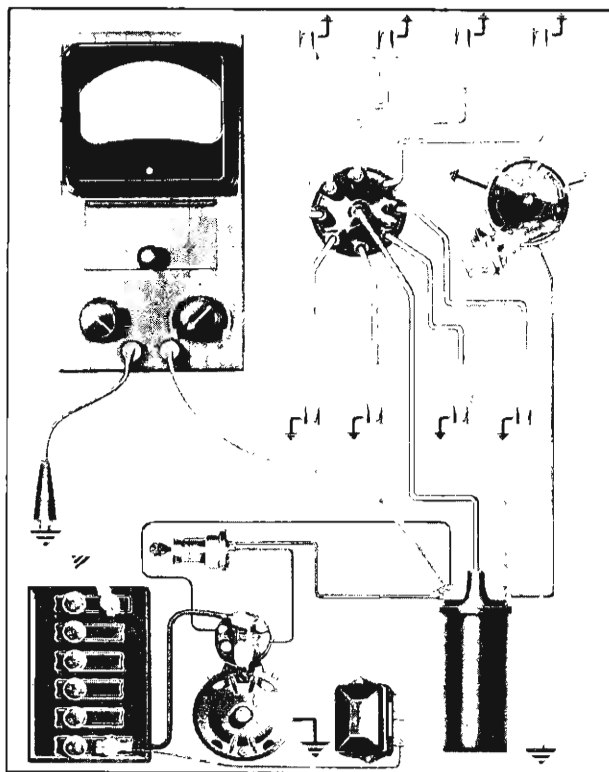

Fig. 28—Connections for Testing Cranking Voltage and Ignition Switch
- a. Connect jumper lead from distributor primary terminal of coil to ground (fig. 28) to prevent engine from firing during cranking.
- b. Connect voltmeter to primary terminal on side of coil and to ground (fig. 28).
- a. With voltmeter connected as described for the Cranking Voltage Test (fig. 28), turn ignition switch to ON. Voltage should drop to 5 to 7 volts as current is now passing through high resistance wire connected between ignition switch and (+) positive terminal of coil. If battery voltage of 12 volts is obtained, the starter solenoid is by-passing the high resistance wire connected between ignition switch and (+) positive terminal of coil and the starter solenoid is not functioning properly to by-pass the ignition resistance wire or the ignition circuit is incorrectly wired.